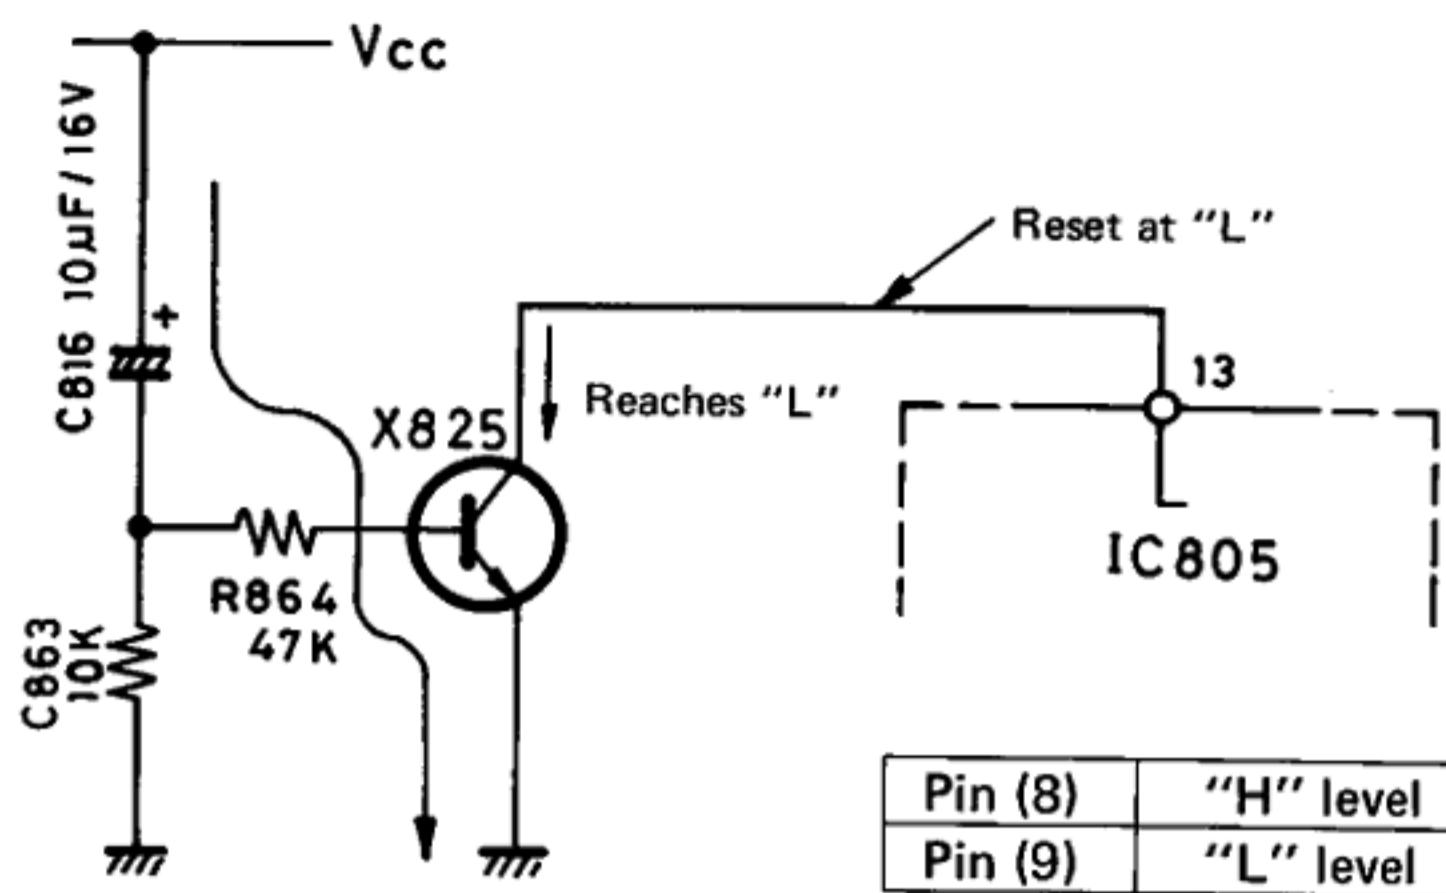

Fig. 11
When power is turned on, X825 is short circuited and pin (13) is reset. This causes pin (8) of IC805 to take "H" level and pin (9) "L" level. Refer to Fig. 11.